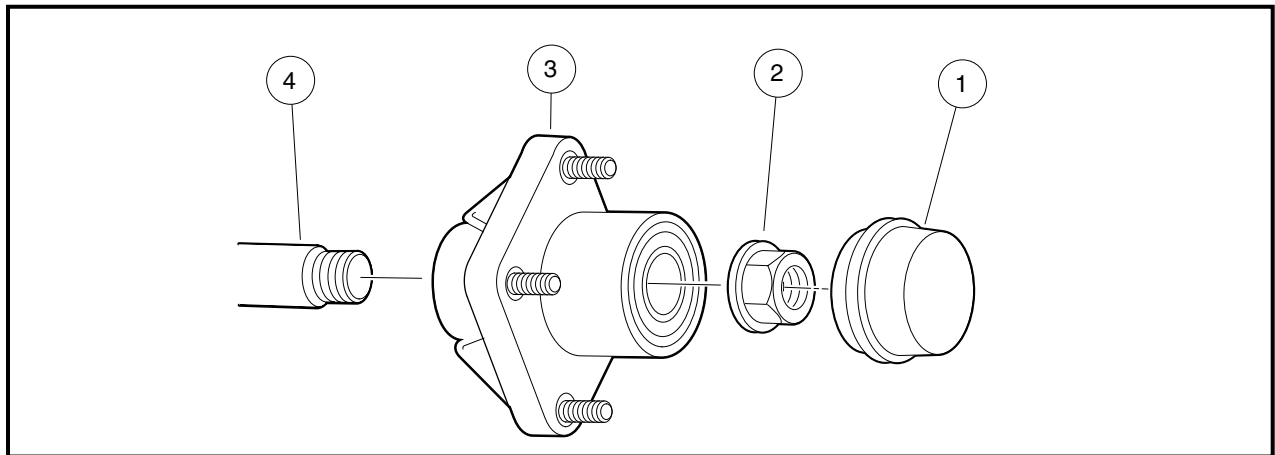

Figure 7-26 Front Wheel Hub – Two-Wheel Brake Vehicle
2. Remove dust cap (1) and lock nut (2) (**Figure 7-26, Page 7-25**).
3. Slide the hub assembly (3) off of the spindle shaft (4).
2. Slide the hub assembly (3) onto the spindle shaft (**Figure 7-26, Page 7-25**).
5. Install the dust cap (1) using a rubber mallet and tapping lightly around the edge of the cap.